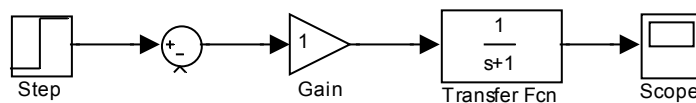

Figure 1: The SIMULINK model of the open loop system.
- Step 10: Align the blocks from left to right in the order shown in Figure 1.